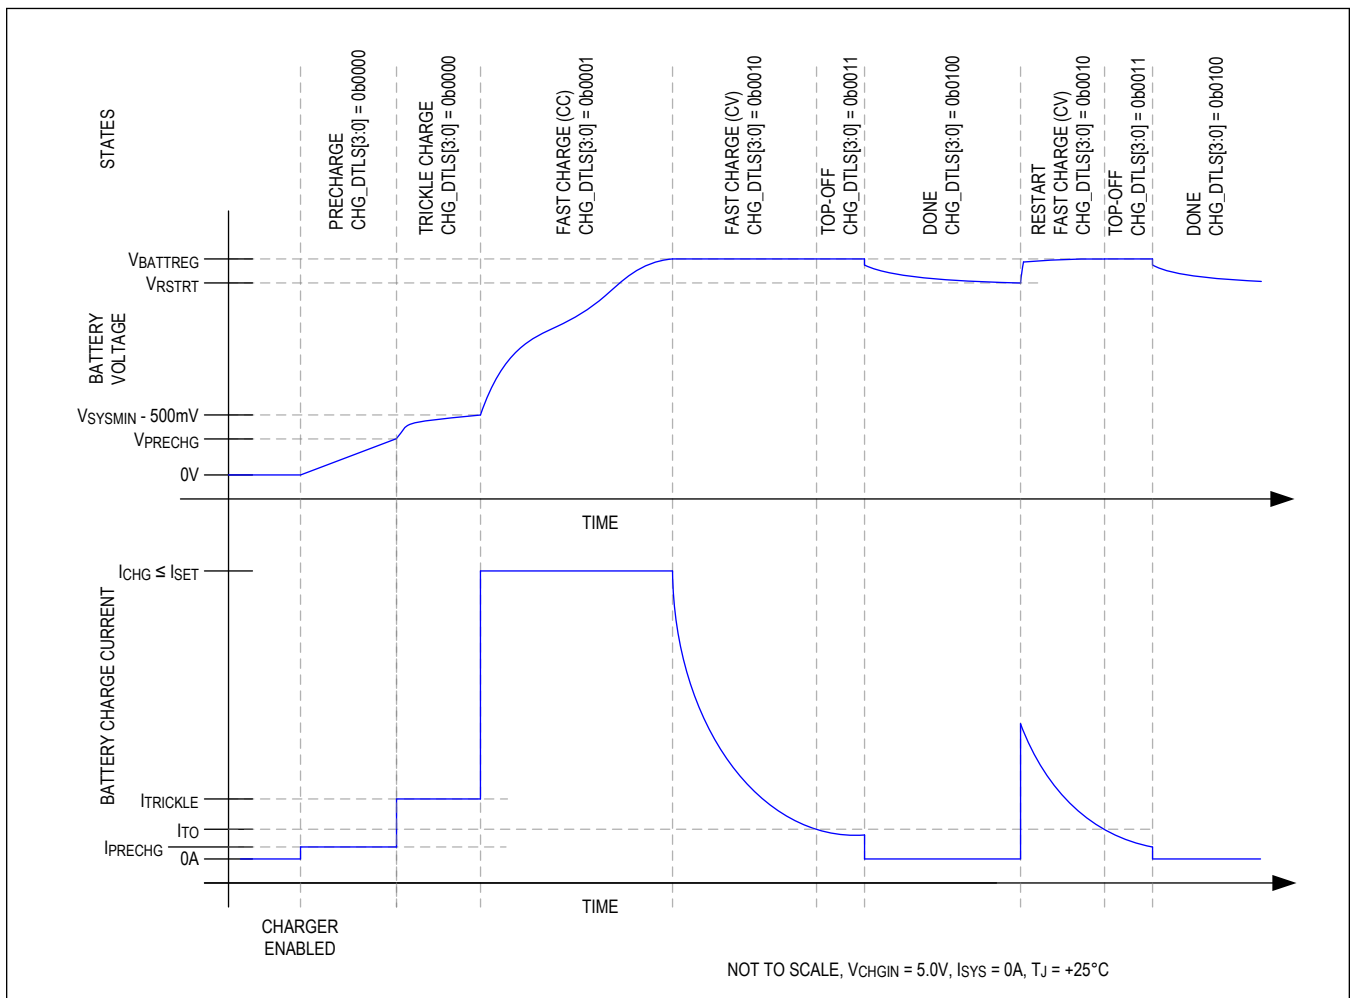
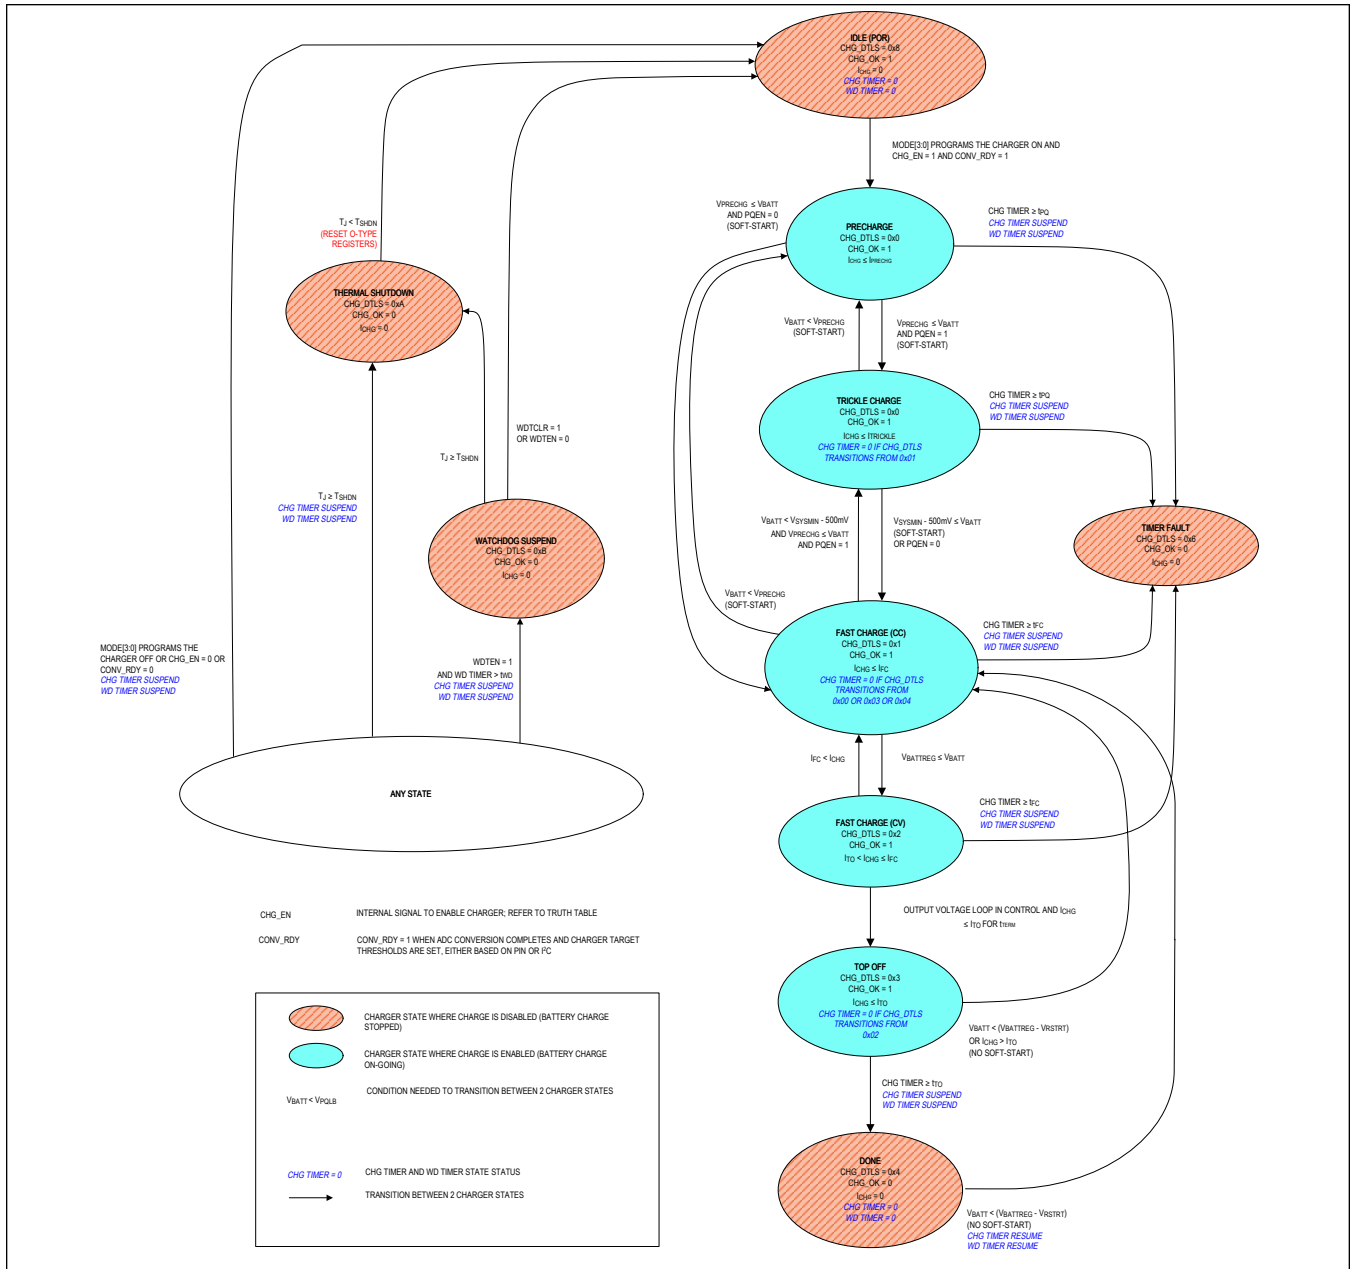

Figure 1. Li Battery Charge Profile
Figure 2. Charger State Diagram
The MAX77960/MAX77961 utilize several charging states to safely and quickly charge batteries as shown in Figure 1 and Figure 2. Figure 1 shows an exaggerated view of a Li+/Li-Poly battery progressing through the following charge states when there is no system load and the die and battery are close to room temperature: Prequalification → Fast-charge → Top-off → Done.
From any state shown in Figure 2 except thermal shutdown, the no input power or charger disabled state is entered whenever the charger is programmed to be off or the charger input CHGIN is invalid. After being in this state for  $t_{SCIDG}$ , CHG\_DTLS is set to 0x08 and CHG\_OK is set to 1. A CHG\_I interrupt is generated if CHG\_OK was 0 previously.
As shown in Figure 2, the charger enters the precharge state when the battery voltage is less than  $V_{PRECHG}$ . After being in this state for  $t_{SCIDG}$ , a CHG\_I interrupt is generated if CHG\_OK was 0 previously, CHG\_OK is set to 1 and CHG\_DTLS is set to 0x00. In the precharge state, charge current into the battery is  $I_{PRECHG}$ .
As shown in Figure 2, the charger state machine is in trickle charge state when  $V_{PRECHG} < V_{BATT} < V_{SYSTEMIN} - 500mV$ . After being in this state for  $t_{SCIDG}$ , a CHG\_I interrupt is generated if CHG\_OK was 0 previously, CHG\_OK is set to 1 and CHG\_DTLS = 0x00.
As shown in Figure 2, the charger enters the fast-charge constant current (CC) state when  $V_{SYSTEMIN} - 500mV$  (typ)  $< V_{BATT} < V_{BATTREG}$ . After being in the fast-charge CC state for  $t_{SCIDG}$ , a CHG\_I interrupt is generated if CHG\_OK was 0 previously, CHG\_OK is set to 1 and CHG\_DTLS = 0x01.
As shown in Figure 2, the charger enters the fast-charge constant voltage (CV) state when the battery voltage rises to  $V_{BATTREG}$  from the fast-charge CC state. After being in the fast-charge CV state for  $t_{SCIDG}$ , a CHG\_I interrupt is generated if CHG\_OK was 0 previously, CHG\_OK is set to 1 and CHG\_DTLS = 0x02.
In the fast-charge CV state, the battery charger maintains  $V_{BATTREG}$  across the battery and the charge current is less than or equal to  $I_{FC}$ . As shown in Figure 1, charger current decreases exponentially in this state as the battery becomes fully charged.
As shown in Figure 2, the top-off state can only be entered from the fast-charge CV state when the charger current decreases below  $I_{TO}$  for  $t_{TERM}$ . After being in the top-off state for  $t_{SCIDG}$ , a CHG\_I interrupt is generated if CHG\_OK was 0 previously, CHG\_OK is set to 1, and CHG\_DTLS = 0x03. In the top-off state the battery charger maintains  $V_{BATTREG}$  across the battery and typically the charge current is less than or equal to  $I_{TO}$ .
As shown in Figure 2, the battery charger enters its done state after the charger has been in the top-off state for  $t_{TO}$ . After being in this state for  $t_{SCIDG}$ , a CHG\_I interrupt is generated only if CHG\_OK was 0 previously, CHG\_OK is set to 0 and CHG\_DTLS = 0x04.
The battery charger provides both a charge timer and a watchdog timer to ensure safe charging. As shown in Figure 2, the charge timer prevents the battery from charging indefinitely. The time that the charger is allowed to remain in its prequalification states is  $t_{PQ}$ . The time that the charger is allowed to remain in the fast-charge CC and CV states is  $t_{FC}$ , which is programmable with FCHGTIME. Finally the time that the charger is in the top-off state is  $t_{TO}$  which is programmable with TO\_TIME. Upon entering the timer fault state a CHG\_I interrupt is generated without a delay, CHG\_OK is cleared and CHG\_DTLS = 0x06.
The charger is off in the timer fault state. The charger can exit the timer fault state when the charger is programmed to be off then on again through the MODE bits or when DISQBAT pin is toggled from L-H-L. Alternatively, the charger input can be removed and reinserted to exit the timer fault state (see the ANY STATE bubble in Figure 2).
The battery charger provides both a charge timer and a watchdog timer to ensure safe charging. As shown in Figure 2, the watchdog timer protects the battery from charging indefinitely in the event that the host hangs or otherwise cannot communicate correctly. The watchdog timer is disabled by default with WDTEN = 0. Enable the feature by setting WDTEN = 1. With watchdog timer enabled, the host controller must reset the watchdog timer within the timer period ( $t_{WDT}$ ) in order for the charger to operate properly. Reset the watchdog timer by programming WDTCLR = 0x01.
As shown in Figure 2, the state machine enters the thermal shutdown state when the junction temperature ( $T_J$ ) exceeds the device's thermal shutdown threshold ( $T_{SHDN}$ ). When  $T_J$  is close to  $T_{SHDN}$ , the charger would have already folded back the input current to 0A, (see the Thermal Foldback section for more details), so the charger and the DC-DC are effectively off. Upon entering this state, CHG\_I interrupt is generated if CHG\_OK was 1 previously, CHG\_OK is cleared, and CHG\_DTLS = 0x0A.